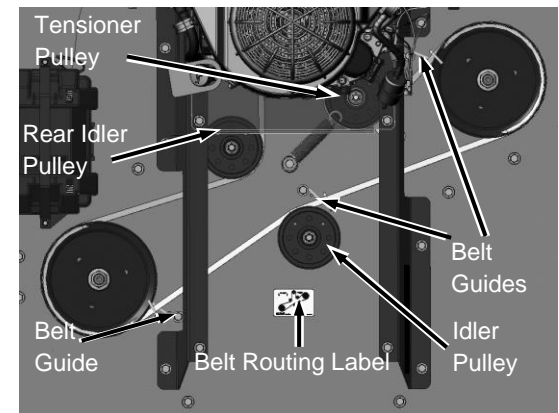

Figure 57
8. Remove all three Belt Guides using a 9/16 in wrench. Two Belt Guides are located next to each Blade Pulley. The other is in front of the center Idler Pulley (**Figure 57**).
1. Lay in the new Belt referencing the Belt Routing Label located on the center of the Deck (**Figure 57**).